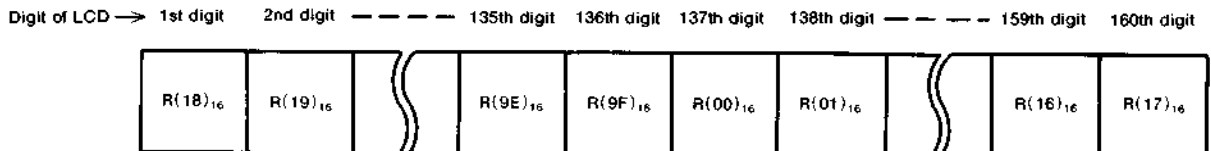

Fig.4 Example of display address
Here, if the content of the display start address register is incremented (+1), the result becomes (18)₁₆, and the LCD display will be given by Fig. 4.